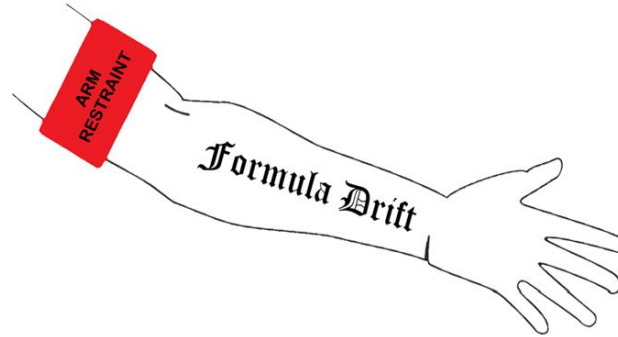

Figure 35
- C. Slip-on Arm restraint straps should be around the bicep above the elbow and below the shoulder. Refer to Figure 35.